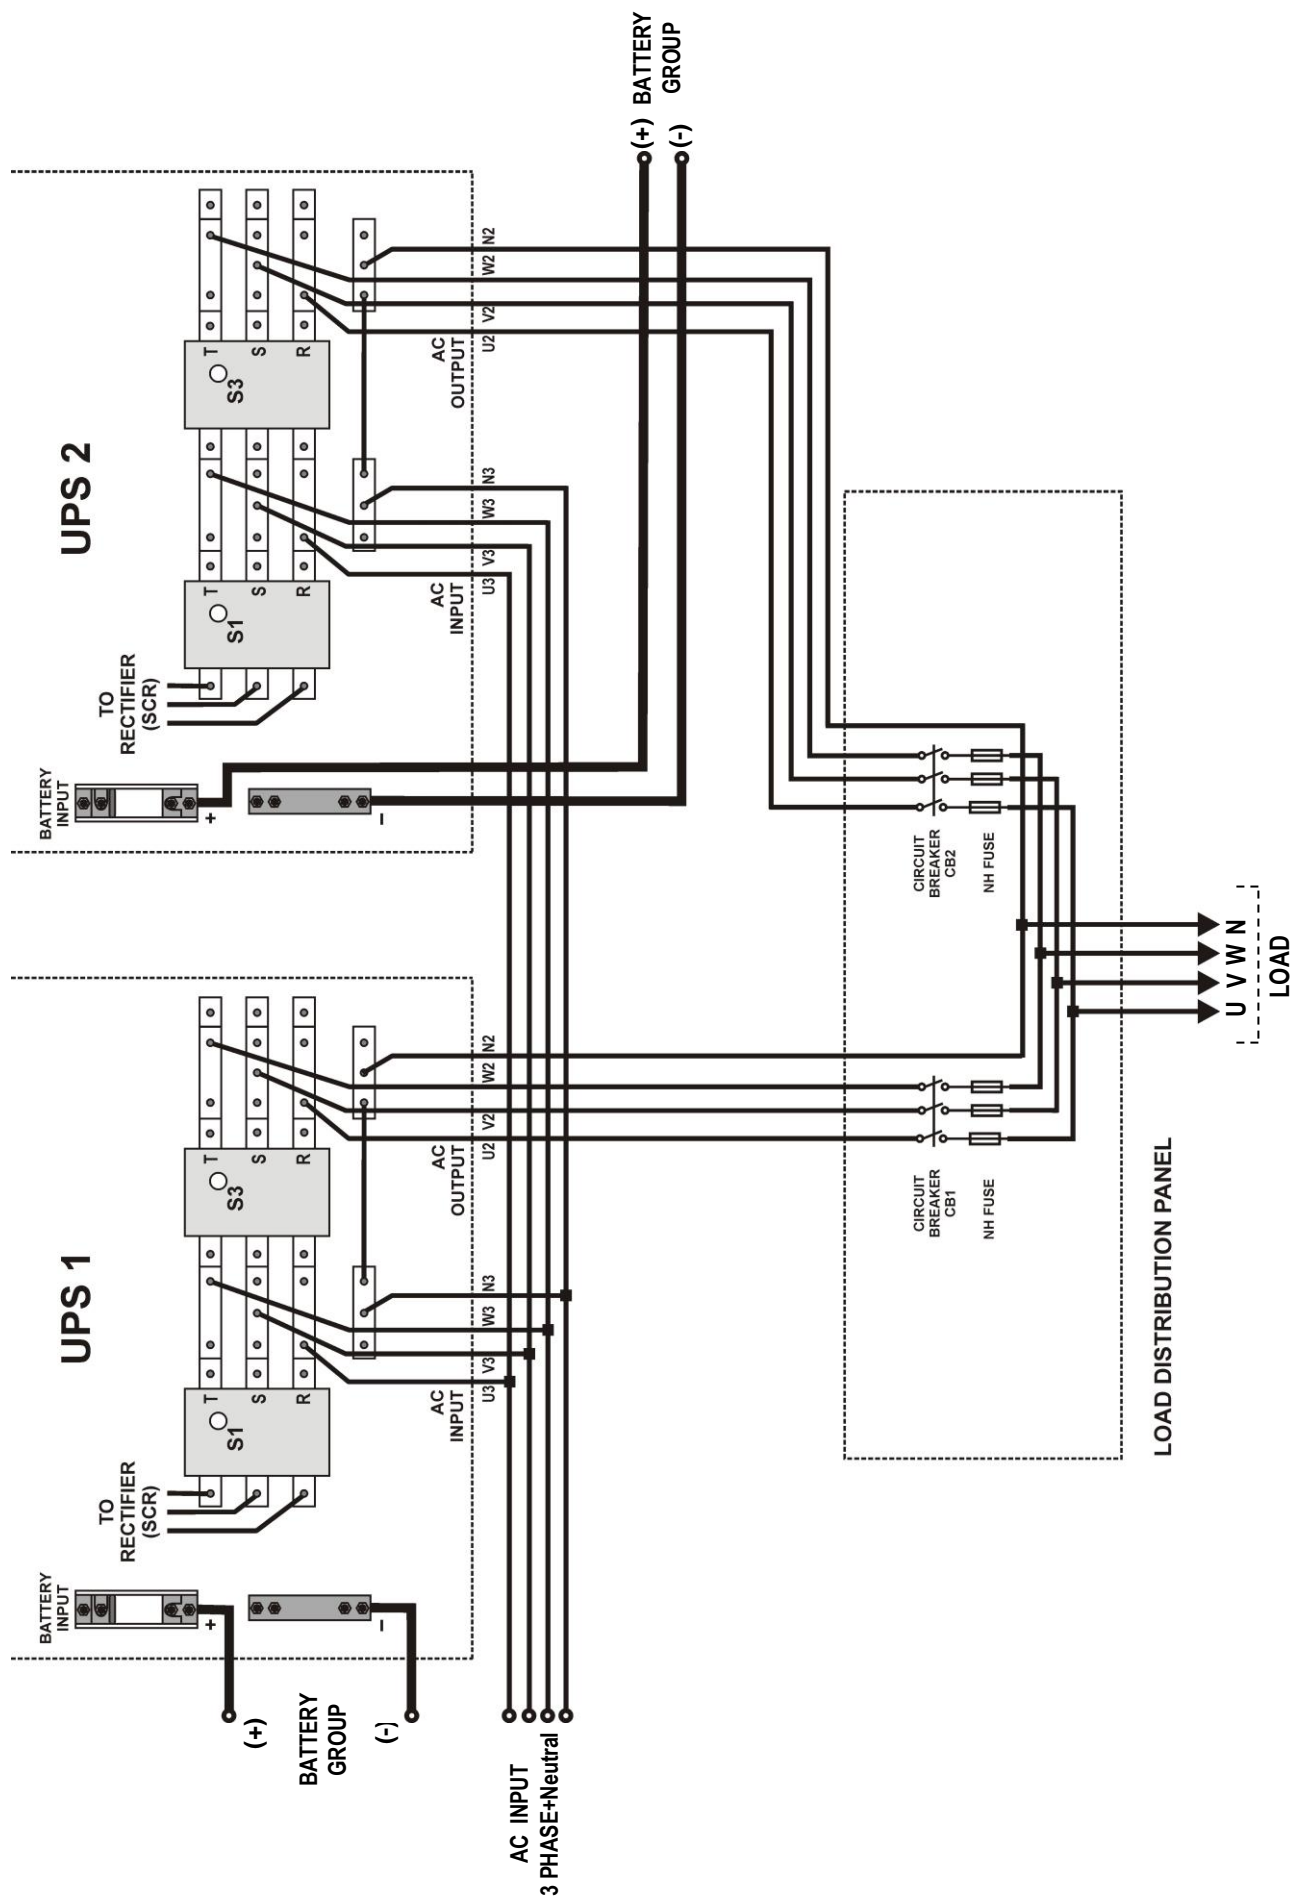

Figure 5-4 POWER CONNECTIONS OF TWO UPS's FOR PARALLEL OPERATION (250kVA)
5. Connect the cable between the battery circuit breaker's positive port (BAT+) first then battery tray (+) at the left topside as in the figure 5-4
6. Connect the cable between the battery circuit's negative port (BAT-) first then battery tray (-) at the right bottom side as in the figure 5-4